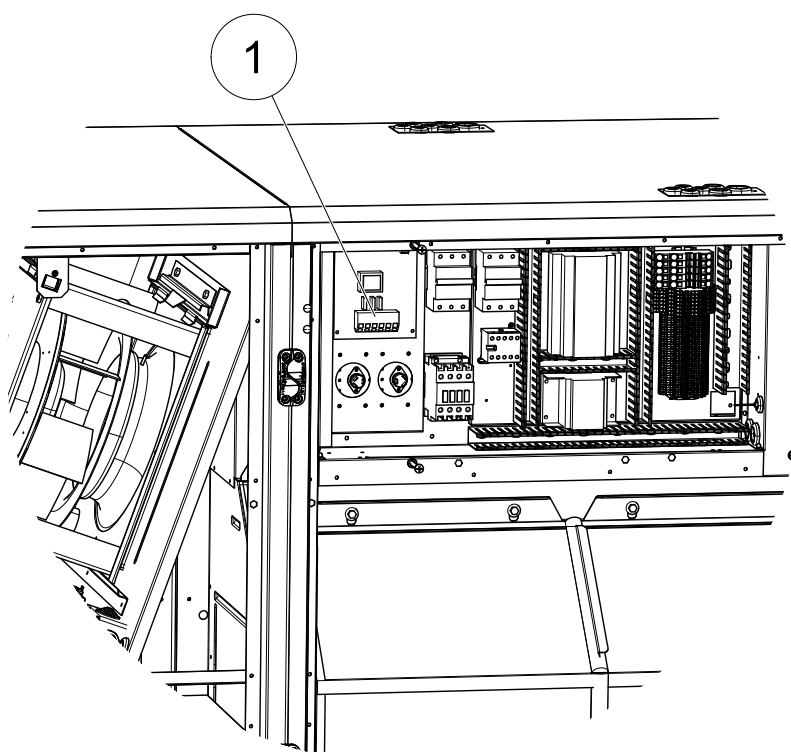
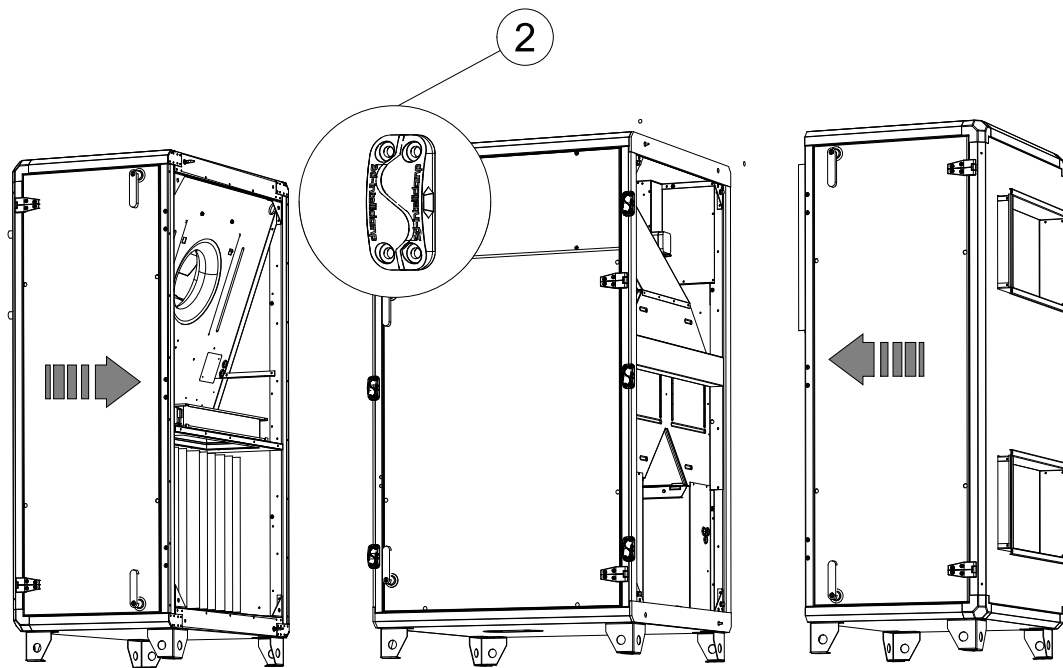

Fig. 4
Fig. 5
For size SC06-SC11 the units are delivered in parts on the pallet. For mounting procedure see figure 4 and figure 5. Connect the power supply for the electrical heating battery to the TTC (pos. 1). The cables are marked TTC L1 OUT, TTC L2 OUT and TTC L3 OUT. Attach the fast couplings to the electric wires. Connect the tubes for the pressure guard filter. Push the units together and fasten the assembly fitting (pos. 2) with a hex key. Make sure that there is enough space behind the unit to tighten the bolts.